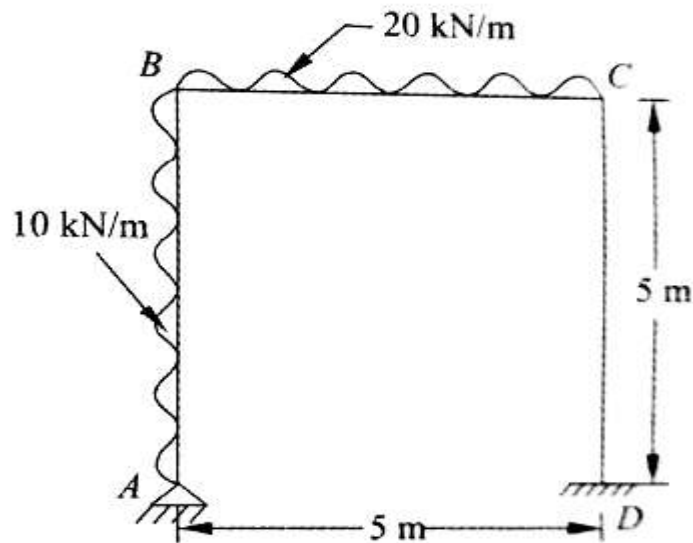

Figure 2
- (b) Collapse loads acting on the frame ABCD is shown in Figure 2. CO1- App (16)